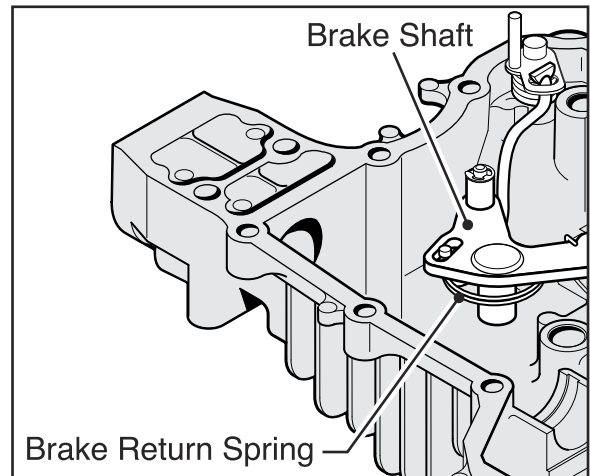

Fig. 5, Brake Shaft & Return Spring Assembly
3. Align the Bypass Rod with the slot on the Brake Shaft. (Fig. 5, 7)
4. Place the Brake Return Spring under the Brake Shaft. (Fig. 5, 7)